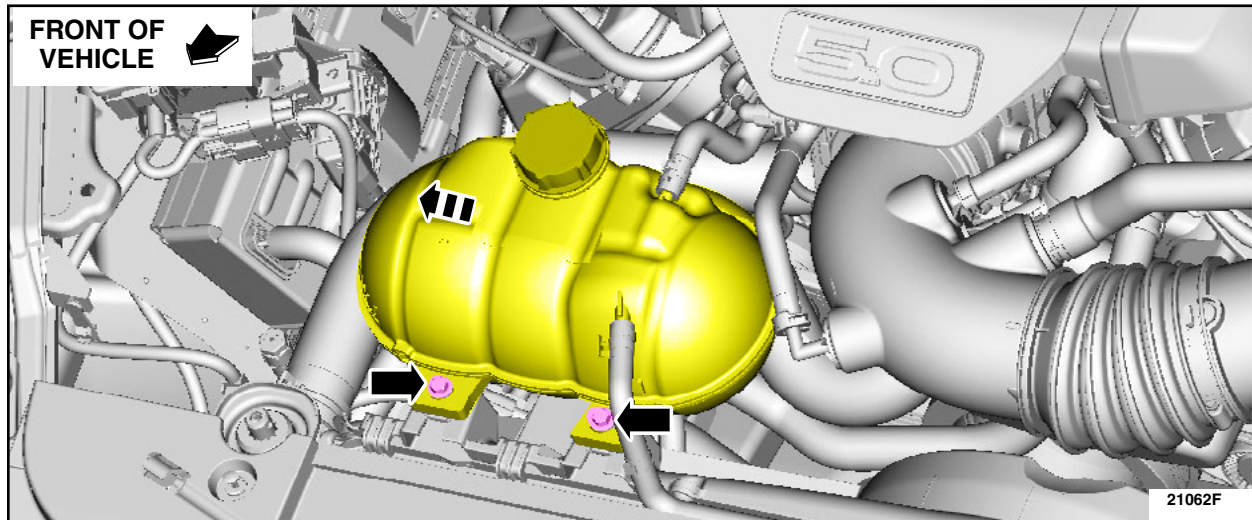

FIGURE 4
3. Remove the retainers and position aside the degas bottle. See Figure 4.
5. Position back the degas bottle and install the retainers. See Figure 4.